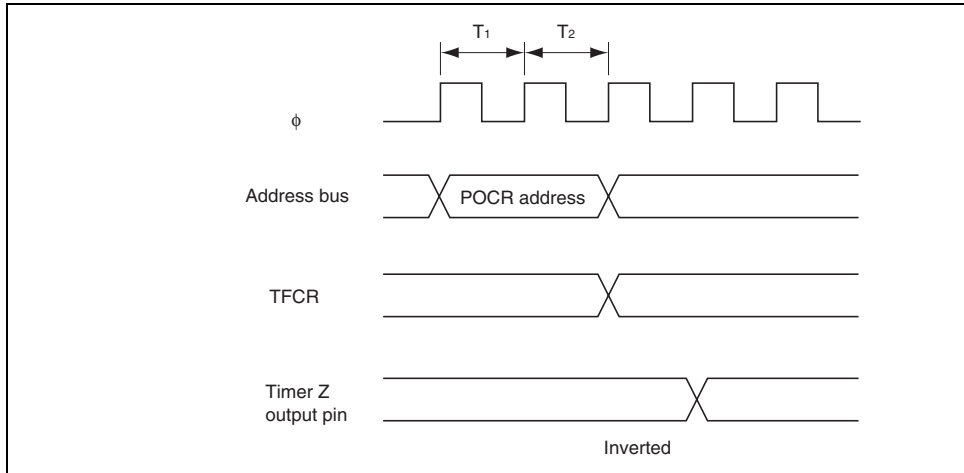

Figure 13.47 Example of Output Inverse Timing of Timer Z by Writing to P
4. Output Inverse Timing by POOCR: The output level can be inverted by inverting the POLC, and POLB bits in POOCR in PWM mode. Figure 13.47 shows the timing.